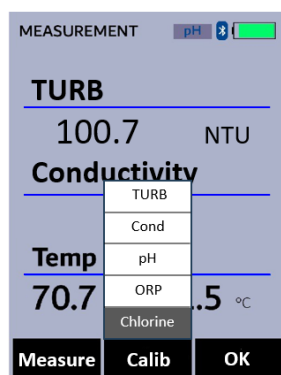

Figure 27.
3. Rinse the sample cell three times with deionized (DI) water. Fill the sample cell with DI water.
5. Press **Measure** (**<**) as needed to highlight **Chlorine** in the selection menu (Figure 27).
3. Press **Calib** (**>**) as needed to highlight **Chlorine** calibration in the selection menu (Figure 27).